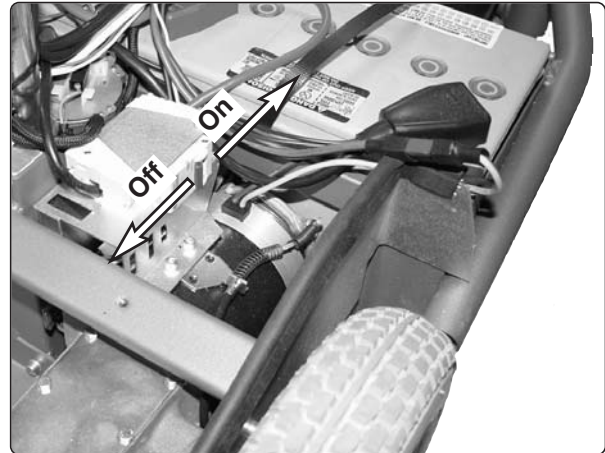

Fig.24. Circuit breaker/Battery isolator.
4. Put the circuit breaker to the "OFF" position, see fig. 24.